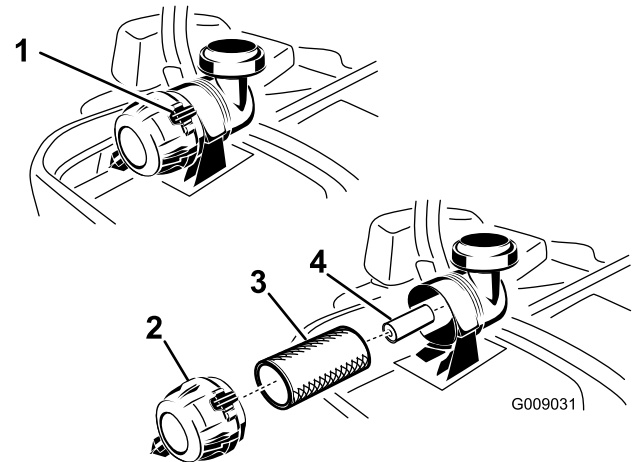

Figure 52
3. Push down to release the retaining clamps on the air cleaner, and pull the air-cleaner cover off the air-cleaner body (Figure 52).
5. Gently slide the primary filter out of the air-cleaner body (Figure 52). Avoid knocking the filter into the side of the body.
1. Do not clean the paper filter, replace it (Figure 52).
2. If the secondary filter is being replaced, carefully slide it into the filter body (Figure 52).
3. Carefully slide the primary filter over the secondary filter (Figure 52).
- Install the air-cleaner cover with the breather cap down, and rotate so that the retaining clamps lock the cover in place (Figure 52).